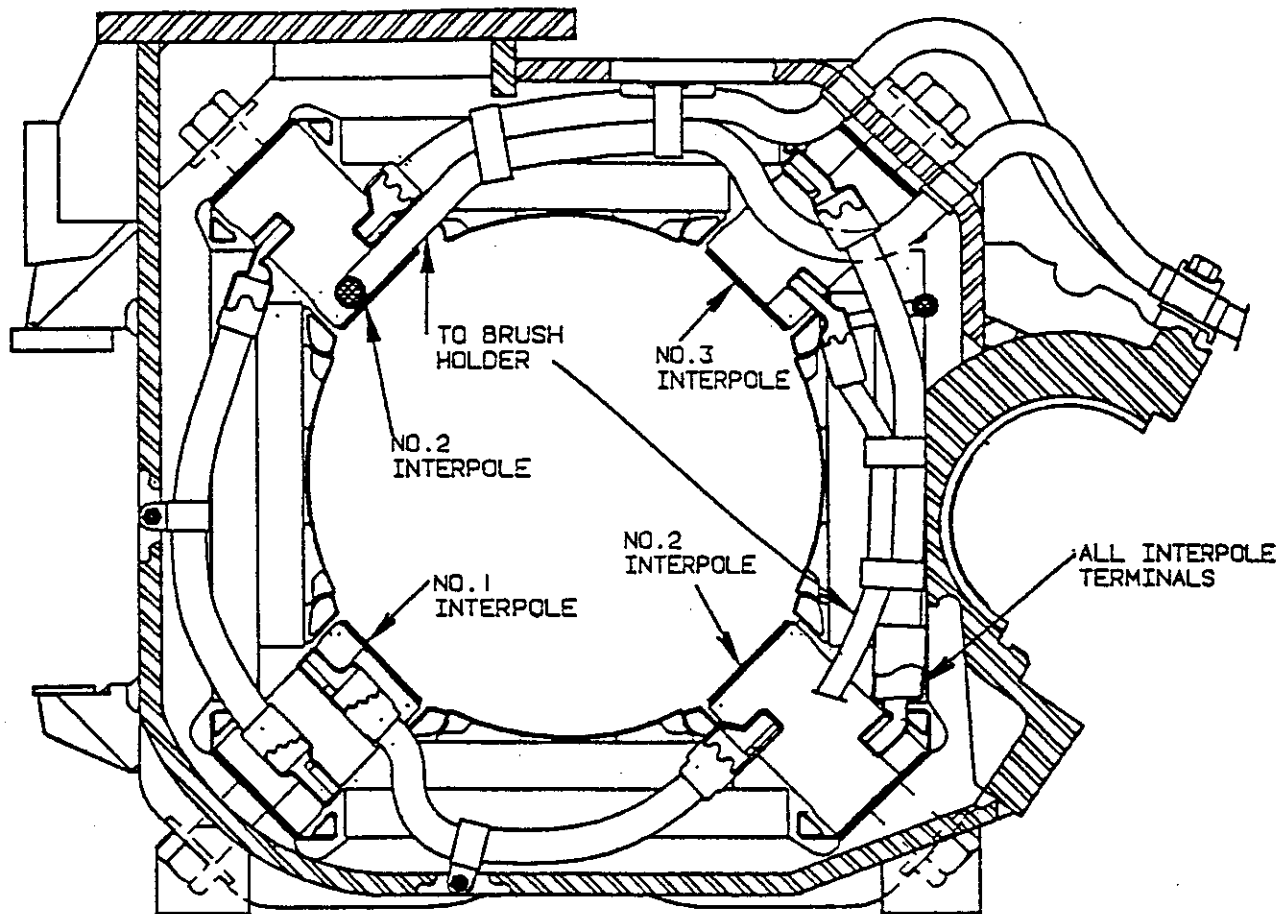

Fig. 25 - Coil Position and Connection from Commutator End
2. Position either one long cable assembly or one long coil connector assembly between the stator frame side leads of the No. 1 and No. 2 interpole coil so that the terminal lug of the cable or the short bent end of the coil connector rests under the stator frame side lead of the No. 2 interpole coil as shown in Fig. 25. Temporarily clamp the other end of the cable or coil connector to the frame side lead of the No. 1 interpole coil.
9. While stator frame is in this position, install a short cable assembly or a short coil connector assembly between the No. 1 and the No. 4 interpole coils. Place the terminal lug of the cable or the long bent end of the coil connector on top of the armature side coil lead of the No. 1 interpole coil and the other end of the cable assembly or the short bent end of the coil connector on the armature side lead of the No. 4 interpole coil as shown in Fig. 25. Temporarily clamp the other end of the cable or coil connector to the No. 4 interpole coil connection. Braze the connection at the No. 1 interpole.